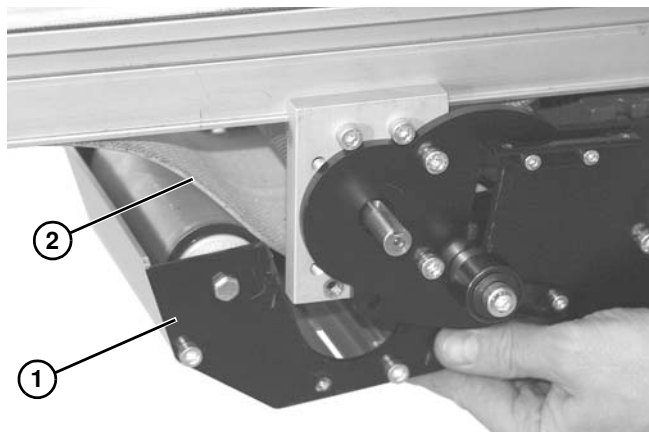

Figure 43
3. Lower and remove mid drive module (**Figure 43, item 1**) from belt (**Figure 43, item 2**).